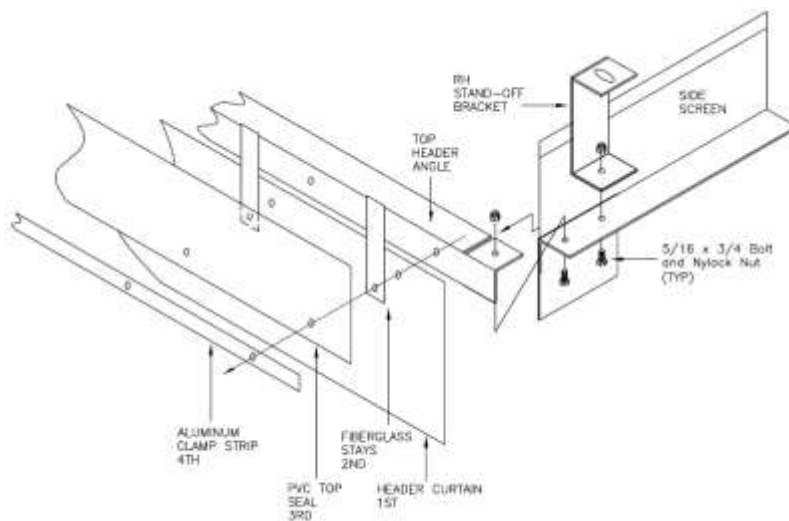

FIGURE 3
5. Next install the top angle to the back of the track assemblies with the horizontal leg of the angle facing the building interior and against the tops of the track assemblies. Use the ¼-20 x 1” machine screws provided to secure the angle to the track assemblies. Install the header curtain and top seal by reaching around under the top header angle and putting the ¼ x 20 x 1 bolts in all the holes. Lay the header curtain on the floor with the logo down, install on the ¼ x 20 x 1 bolts then the fiberglass stays, then the PVC top seal, then the 1 inch aluminum clamp strip and fasten all these components together using the nylock nuts. (See Fig. 3)